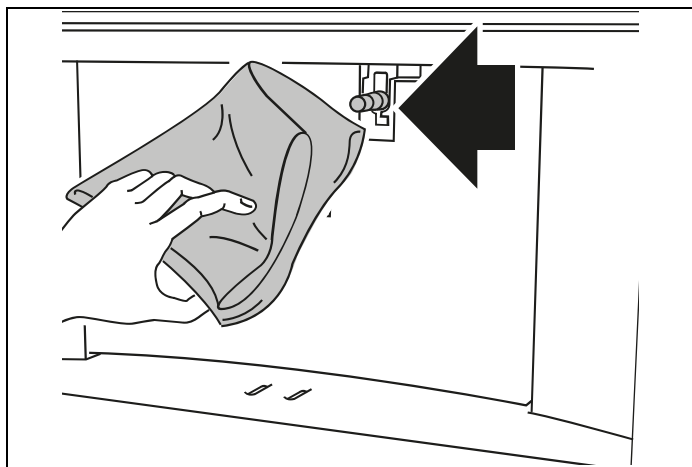

Fig. 39
- 5) Remove the milk container and always clean the steam connection nozzle (**A10**) with a clean cloth (Fig. 39).